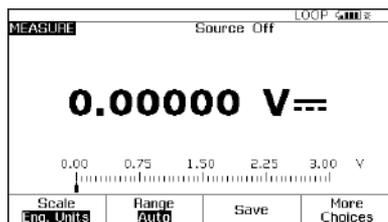

Figure 21.
5. Next depress the "MEAS/SOURCE" button; now you are in the source screen (Figure 21).